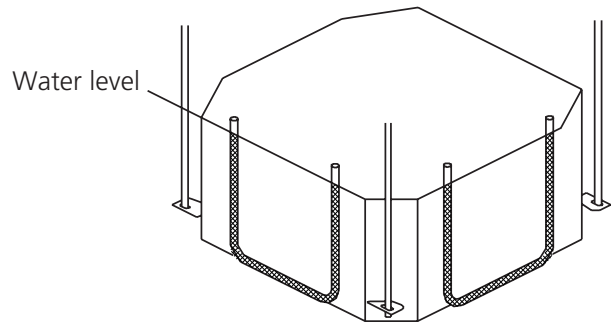

**Fig. 3.6**
**NOTE:** The bottom of the unit should be 10 - 25mm (0.4-0.98") for 24k-60k models or 24mm (0.9") for 12k-18k models higher than the ceiling board. Generally, L (indicated in Fig. 3.6) should be half the length of the suspension bolt or long enough to prevent the nuts from coming off.